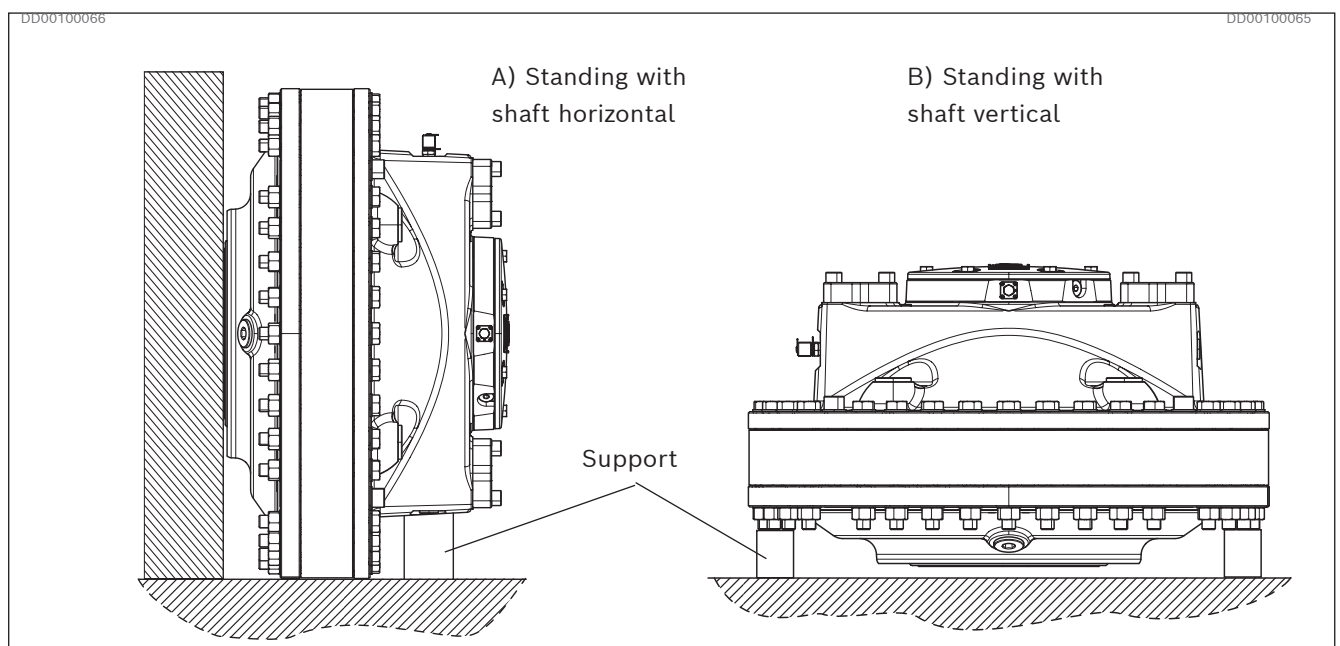

Fig. 10: CB motor standing on a flat surface (example)
- ▶ It is also advisable to provide supports at the mounting surface of the motor, see Fig. 10 .
When the motor is placed on a flat surface such as a floor, it must stand either on its outer diameter or on the suitably protected end face of the hollow shaft. It is also advisable to provide supports shown in Fig. 10.
1. Place the motor as shown in *Fig. 10, B*) Standing with shaft vertical.
5. Position the motor as shown in *Fig. 10, A*) Standing with shaft horizontal or alt. B) Standing with shaft vertical.